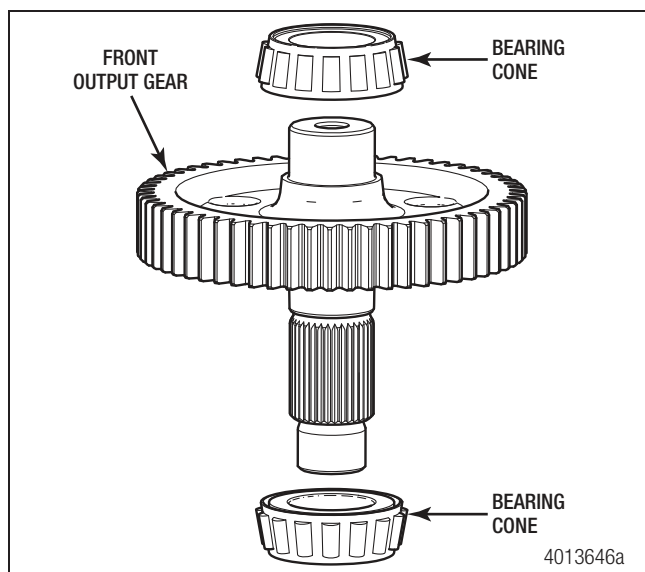

Figure 6.23
2. Place the bearing cone onto the end of the shaft assembly with the appropriate end facing UP. Use driver #3 and a press to push the bearing cone DOWN until it is fully seated. Refer to "Tools" on page 60 for a tool drawing. Only press on the inner race of the bearing cone. Ensure the bearing cone is correctly seated. Figure 6.23.